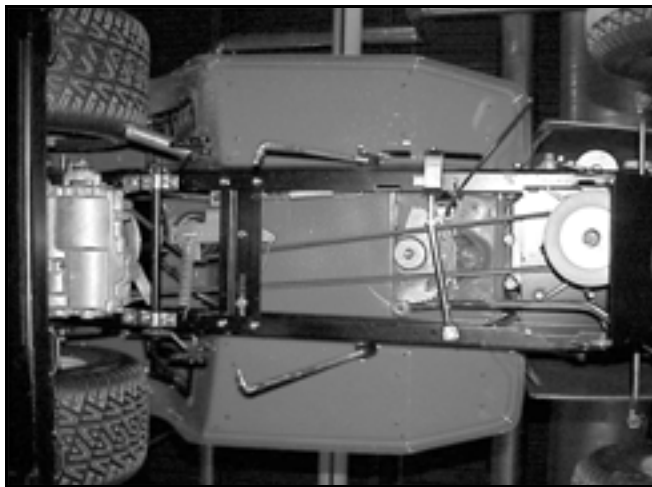

Figure 61
7. Install new belt around the engine drive pulley and route it back to the transaxle pulley (Figure 61).